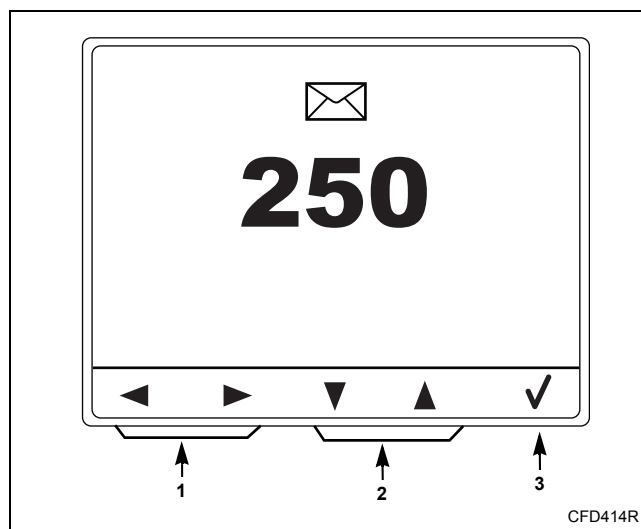

Figure 70
1. Select by pressing the keypads below the Left/Right icons, edit by pressing the keypads below the Up/Down icons, and confirm by pressing the keypad below the Check icon. Refer to *Figure 70*.